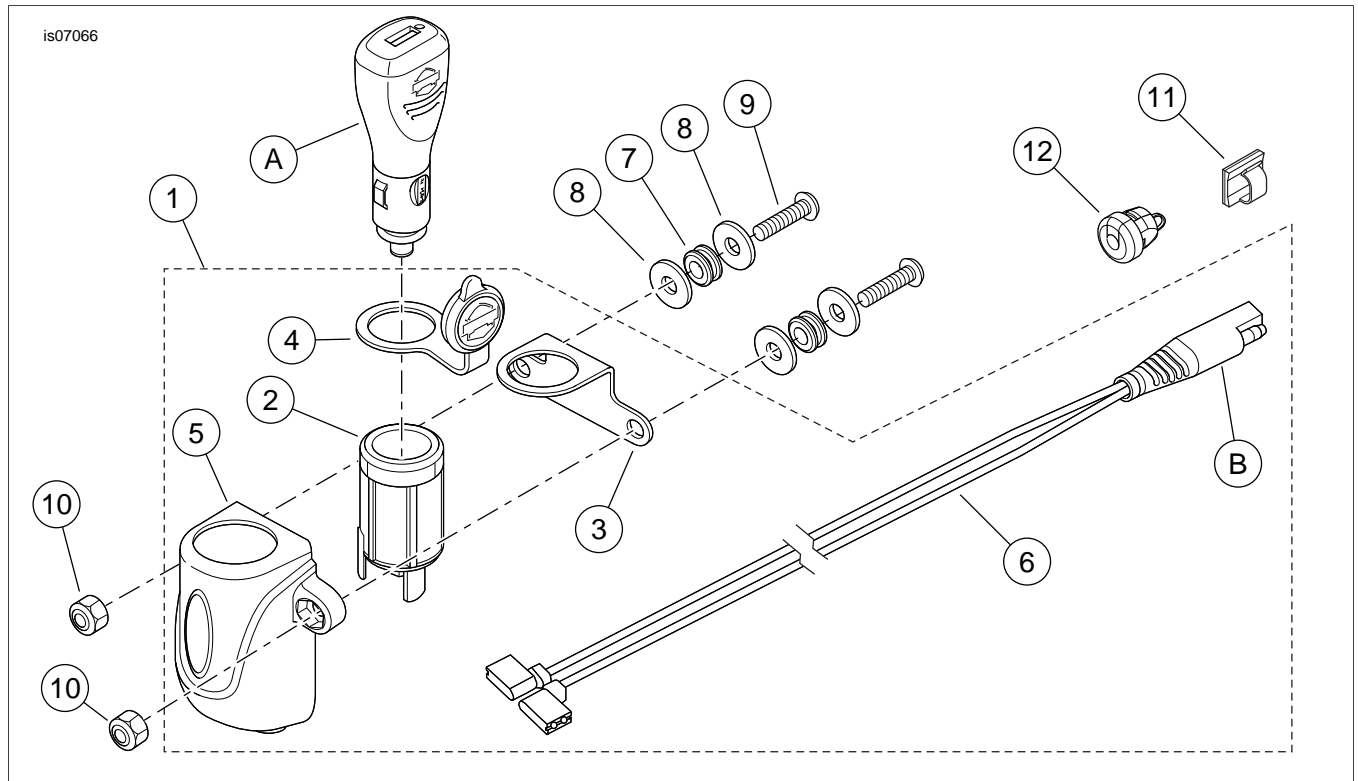

Figure 1. Service Parts, Saddlebag 12 Volt Power Outlet Kit
See Figure 1 and Table 1.
See Figure 1. Using the outlet housing (5) as a template, mark the locations for the two mounting holes and the power outlet harness pass-through opening with a center punch. Note that the power outlet housing mounting holes are two in (50.8 mm) apart.
5. Install a rubber grommet (7) into each of the 0.38 in (9.5 mm) power outlet mounting holes drilled in Step 4.
6. Place a washer (8) onto the threads of each hex socket screw (9). Insert the screws through the grommets, and place a second washer onto the screw threads.
7. Install the power outlet assembly (1) to the saddlebag side wall with the lock nuts (10). Tighten to 25-35 in-lbs (2.8-4.0 N-m).
8. Feed the two-way power outlet connector (B) and harness out through the 0.62 in (16 mm) hole in the saddlebag side wall, and route to the charger harness connector.
9. Use an adhesive-backed clip (11) to secure the power outlet harness to the inside of the saddlebag if needed. Use at least one adhesive-backed clip to secure the power outlet harness to the outside of the bag or the vehicle frame near the charger harness connector.